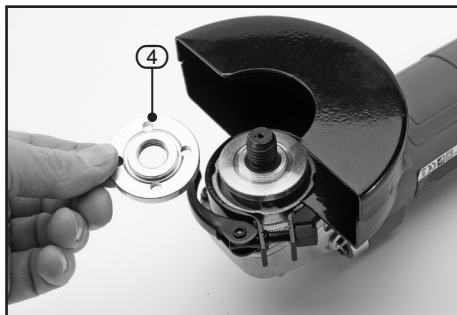

FIG.4
### 8.4 MOUNTING CUTTING DISCS – FIGS.4 – 6
The switch ① is protected against accidental starting by an interlocking lever (1.1) (Fig.4).
- To start the machine press lever (1.2) forward keeping it pressed forward, whilst squeezing the main switch ①.